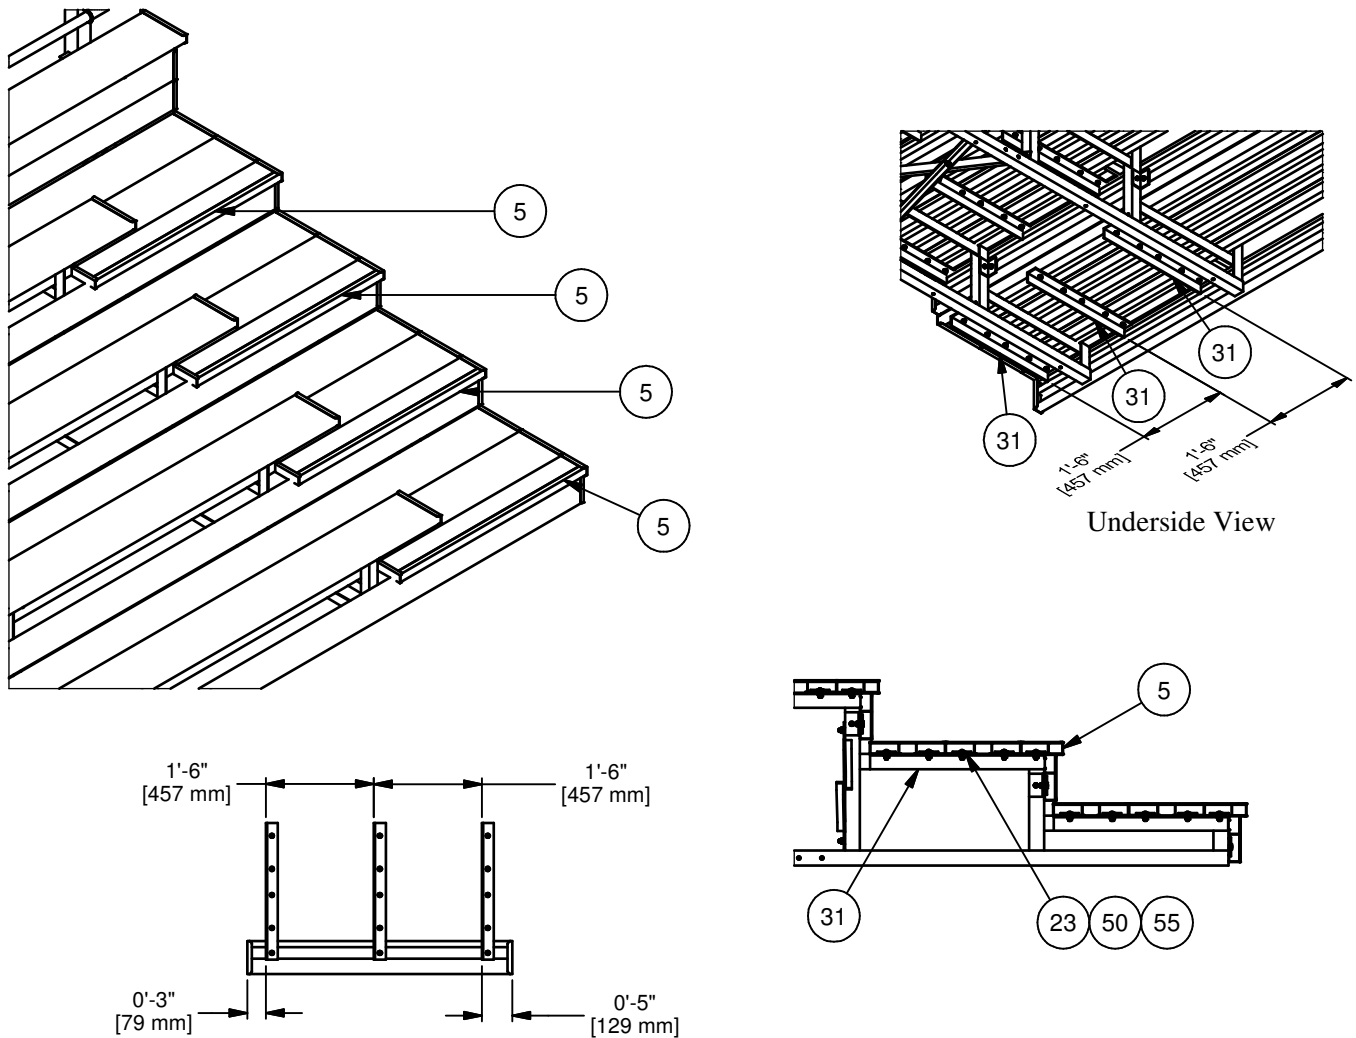

Figure 11
16. Attach three (3) bleacher step mounting angles (Item 32) to the riser step plank making sure the center angle bolt holes are in the center of the plank. Refer to Figure 11 for reference dimensions. The angles are attached with a mounting clip and a 5/16" x 1" carriage bolt and 5/16" whizlock nut. Do not fully tighten the nuts at this time. Slide the three mounting angles through the gap between the riser plank and the foot plank. Center the step plank on the aisle opening between seat planks. From the underside of the bleacher, attach each of the step mounting angles to the bottom of the foot planks using mounting clips, 5/16" x 1" carriage bolts, and 5/16" whizlock nuts. Four (4) are required per each mounting angle. Make sure the step plank is fully seated against the foot plank, centered on the aisle opening, and the mounting angles are pushed against the riser plank.